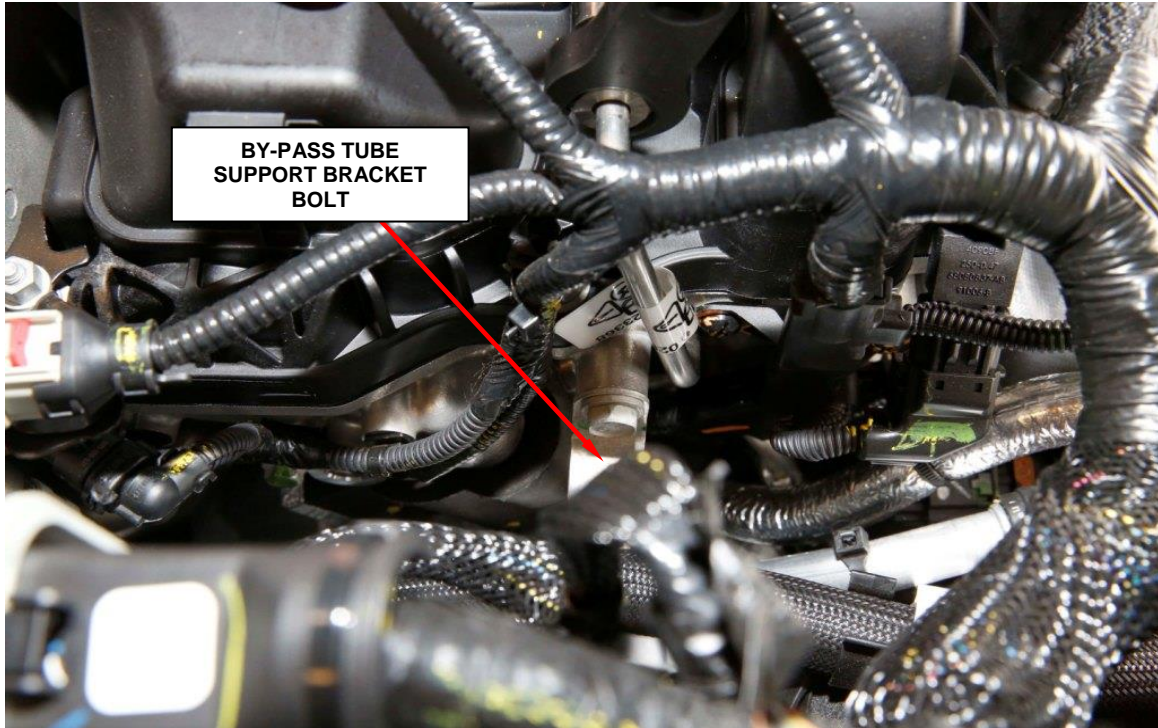

Figure 11 – Support Bracket
34. Remove the coolant by-pass tube support bracket bolt at the rear of the engine (Figure 11).